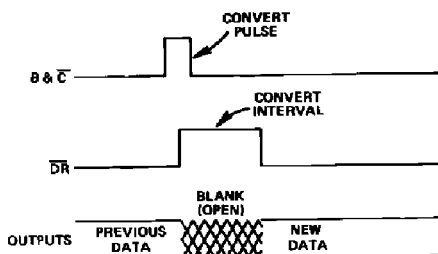

Figure 10. Convert Pulse Mode
**Convert Pulse Mode**—In this mode, data is present at the output of the converter at all times except when conversion is taking place. Figure 10 illustrates the timing of this mode. The BLANK and  $\overline{CONVERT}$  line is normally low and conversions are triggered by a positive pulse. A typical application for this timing mode is shown in Figure 13, in which  $\mu\text{P}$  bus interfacing is easily accomplished with three-state buffers.